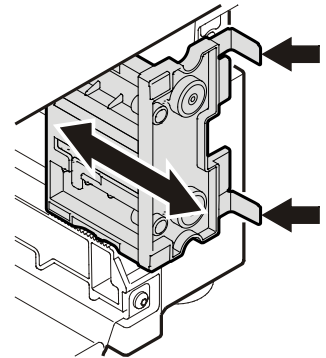

Figure 23
5. The front edge of the brackets is flush with the front of the ventilation grille. Adjust the supports accordingly (**Figure 23**).